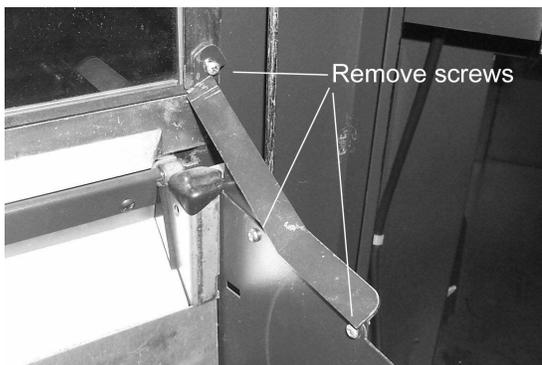

Figure 10
12. On either side of the bin, remove the deflector plate by removing three screws. Do this for both sides. Refer to **Figures 10 & 11**.